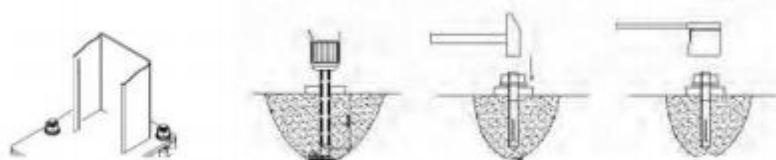

Figure 29
- 10. Adjust the column with the leveling bar and leveling pad, drill the anchor hole and install the anchor bolts. Tap the anchor bolts into the anchor hole with a hammer and tighten the bolts. (See Fig.29)**